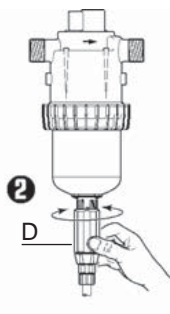

Fig. 13
- Screw or unscrew the adjusting nut (**Fig. 13-D**) so as to bring the top of the nut into line with the desired injection rate